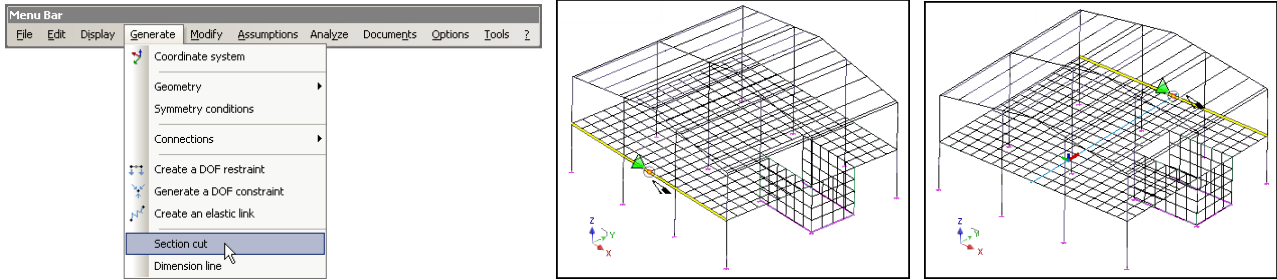

Figure 208: Generating the section cut
2. Create a section cut line on the planar element (floor), as in Figure 208.